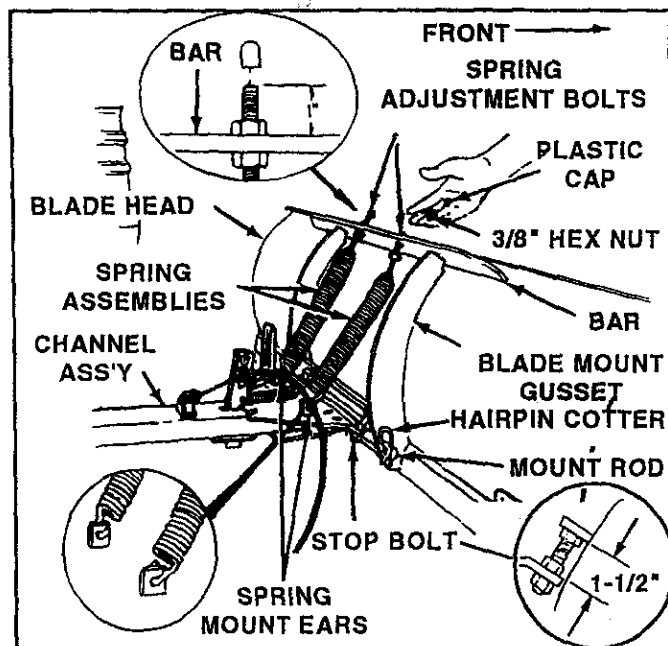

FIGURE 13
6. Connect curved end of spring assemblies into spring mount ears. See figure 13. Remove plastic cap and one 3/8" hex nut from end of each spring assembly. Hold blade back against stop bolts and assemble spring adjustment bolts up through bar. Re-assemble two 3/8" hex nuts, removed earlier, onto adjustment bolts on top side of bar. Tighten both spring adjustment nuts approximately 1" down from end of bolt threads, see figure 13, to provide tension of blade against stop bolts.
7. Adjust stop bolts to tilt blade forward until 1-1/2" distance is obtained between pivot plate and blade assembly crossmember. See figure 13.